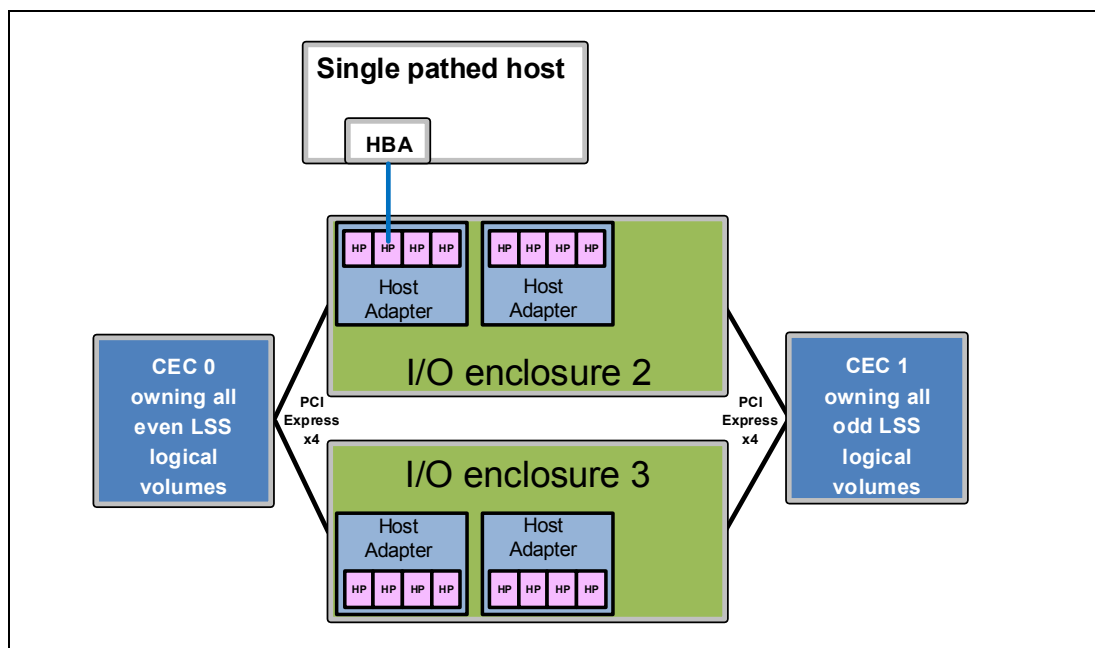

Figure 4-4 A single-path host connection
In DS8000, the host adapters are shared between the central electrical complexes. To illustrate this concept, Figure 4-4 shows a potential machine configuration. In this example, two I/O enclosures are shown. Each I/O enclosure has a pair of Fibre Channel host adapters. If a host only has a single path to a DS8000, as shown in Figure 4-4, it would still be able to access volumes belonging to all LSSs because the host adapter will direct the I/O to the correct central electrical complex. However, if an error were to occur on the host adapter (HA), host port (HP), or I/O enclosure, or in the SAN, then all connectivity would be lost. Clearly, the host bus adapter (HBA) in the attached host is also a single point of failure.